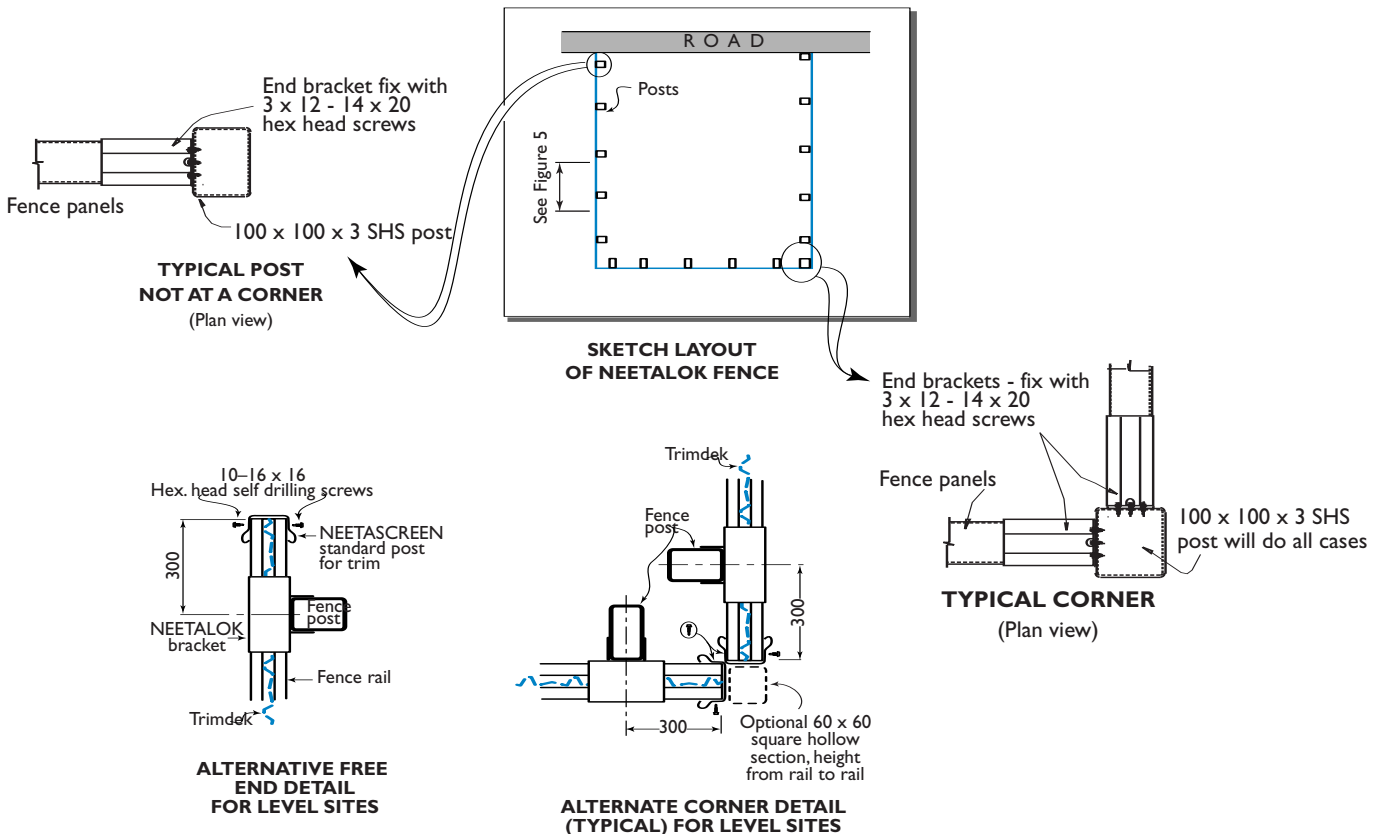

Figure 4
Depending on how you configure corners and ends of fence runs, you might need extra posts. (Figures 4 and 5).
On stepped installations each panel must have two posts. Adjacent panels on a level installation may share a common post (Figures 4 and 5).
At the ends of a fence run and at steps in height, the 'free' end of a panel is trimmed and stiffened by a NEETALOK standard fence post, fixed to the fence rails (Figure 4).
Check the number and type of posts you want. Mark them on a sketch of your fence site (Figure 4). You will need to consider:
- The configurations of posts at corners (Figure 4);